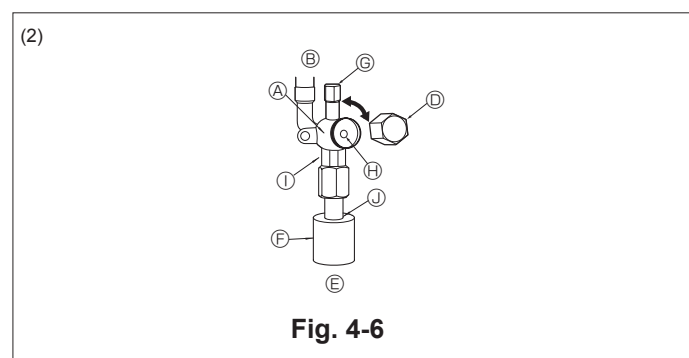

Fig. 4-6
- Liquid side of A24-A42 and Gas/Liquid side of A12, A18 (Fig. 4-6)